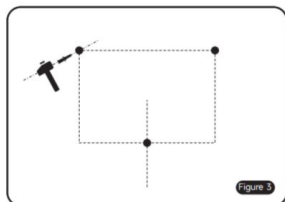

Figure 3
3. Fix 3 pieces of plastic expansion into the hole. (Figure 3)